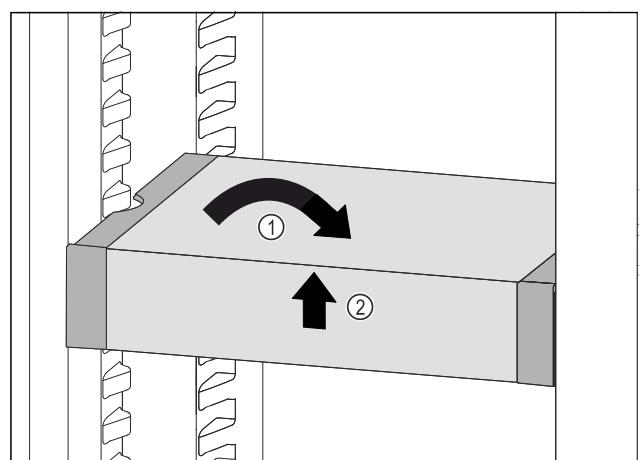

Fig. 91
► Set VarioSafe straight. Fig. 91 (1)
► Lift VarioSafe at the front. Fig. 91 (2)